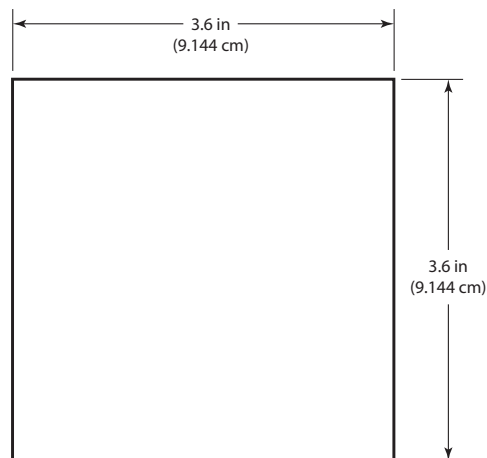

Figure 2: Panel cutout
1. Cut a 3.6 in. \times 3.6 in. (9.144 cm \times 9.144 cm) square opening in the panel. See *Figure 2*.